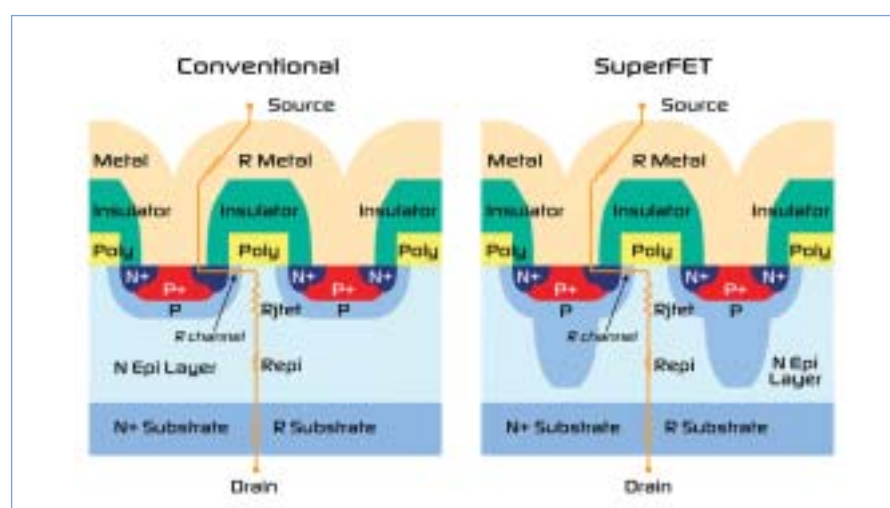

Fig. 2. Comparison.
Fairchild's SuperFET technology (FCxxNxx) creates more efficient switches by changing the relationship between the RDS(ON) of the MOSFET and its breakdown voltage from an exponential relationship to a linear one. This solution is achieved through Fairchild's Super Junction FET process technology that grows pillars of P-type material (see Figure 2). The high break down voltage (600V) and industry leading Figure of Merit (FOM) parameters such as RDS(ON) per unit silicon area can significantly improve the efficiency and reliability of end applications like AC/DC power supplies, motor drives and lamp ballasts. As an example, a common 30W flyback AC/DC Switching Mode Power Supply
By far, the most impressive new power MOSFET technology introduced in the last decade has been the Super Junction MOSFETs like Fairchild's SuperFETs. This modern family of MOSFETs has a structure distinctly different from that of the conventional MOSFETs. Figure 2 compares a cross-section of the conventional MOSFET
with that of the SuperFET. Like all discrete MOSFETs, the SuperFET carries current vertically through the bulk of the silicon (see Figure 2).